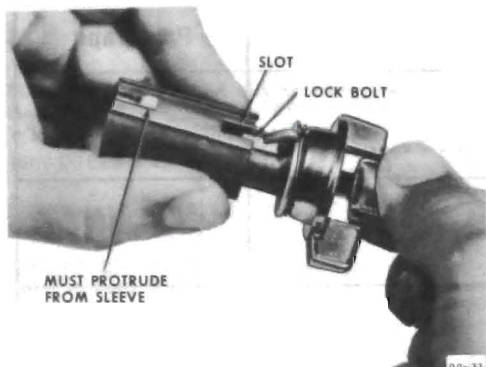

Figure 00-8B Ignition Lock - Assembly
3. Align the lock bolt on the lock cylinder and the tab on the anti-theft washer with the slot in the sleeve assembly. Push the sleeve all the way onto the lock cylinder assembly, push the ignition key the rest of the way in and rotate the lock cylinder clockwise. See Figure 00-8B.